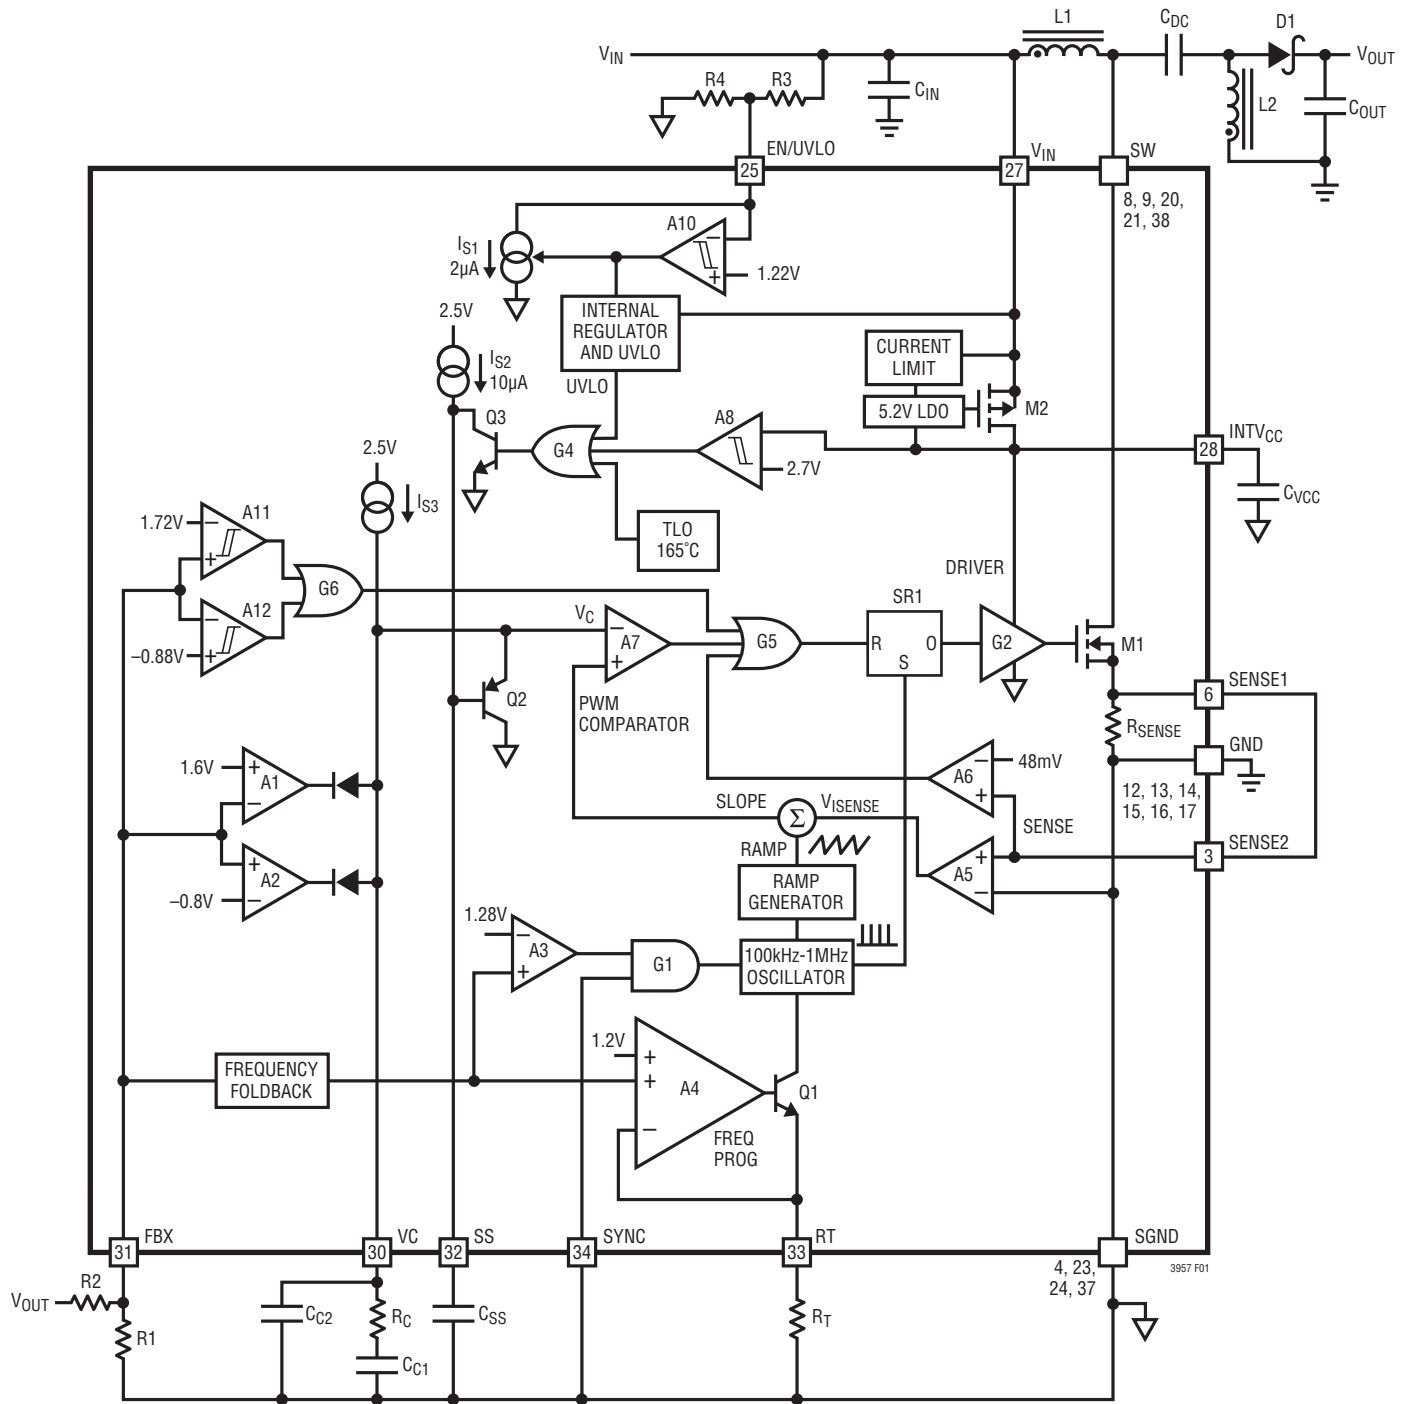

Figure 1. LT3957 Block Diagram Working as a SEPIC Converter
The LT3957 uses a fixed frequency, current mode control scheme to provide excellent line and load regulation. Operation can be best understood by referring to the Block Diagram in Figure 1.
The LT3957 is capable of generating either positive or negative output voltage with a single FBX pin. It can be configured as a boost, flyback or SEPIC converter to generate positive output voltage, or as an inverting converter to generate negative output voltage. When configured as a SEPIC converter, as shown in Figure 1, the FBX pin is pulled up to the internal bias voltage of 1.6V by a voltage divider (R1 and R2) connected from  $V_{OUT}$  to SGND. Comparator A2 becomes inactive and comparator A1 performs the inverting amplification from FBX to VC. When the LT3957 is in an inverting configuration, the FBX pin is pulled down to  $-0.8V$  by a voltage divider connected from  $V_{OUT}$  to SGND. Comparator A1 becomes inactive and comparator A2 performs the noninverting amplification from FBX to VC.
The purpose of this current is to allow the user to program the rising hysteresis. The Block Diagram of the comparator and the external resistors is shown in Figure 1. The typical falling threshold voltage and rising threshold voltage can be calculated by the following equations:
An internal, low dropout (LDO) voltage regulator produces the 5.2V INTVCC supply which powers the gate driver, as shown in Figure 1. The LT3957 contains an undervoltage lockout comparator A8 for the INTVCC supply. The INTVCC undervoltage (UV) threshold is 2.7V (typical), with 0.1V hysteresis, to ensure that the internal MOSFET has sufficient gate drive voltage before turning on. When INTVCC is below the UV threshold, the internal power switch will be turned off and the soft-start operation will be triggered. The logic circuitry within the LT3957 is also powered from the internal INTVCC supply.
If LT3957 operates at a low VIN and high switching frequency, the voltage drop across the drain and the source of the LDO PMOS (M2 in Figure 1) could push INTVCC to be below the UV threshold. To prevent this from happening, the INTVCC pin can be shorted directly to the VIN pin. VIN must not exceed the INTVCC Absolute Maximum Rating (8V). In this condition, the internal LDO will be turned off and the gate driver will be powered directly from VIN. It is recommended that INTVCC pin be shorted to the VIN pin if VIN is lower than 3.5V at 1MHz switching frequency, or VIN is lower than 3.2V at 100kHz switching frequency. With the INTVCC pin shorted to VIN, however, a small current (around 16μA) will load the INTVCC in shutdown mode.
The choice of operating frequency may be determined by on-chip power dissipation (a low switching frequency may be required to ensure IC junction temperature does not exceed 125°C), otherwise it is a trade-off between efficiency and component size. Low frequency operation improves efficiency by reducing gate drive current and MOSFET and diode switching losses. However, lower frequency operation requires a physically larger inductor. Switching frequency also has implications for loop compensation. The LT3957 uses a constant-frequency architecture that can be programmed over a 100kHz to 1000kHz range with a single external resistor from the  $R_T$  pin to SGND, as shown in Figure 1. A table for selecting the value of  $R_T$  for a given operating frequency is shown in Table 1.
The output voltage  $V_{OUT}$  is set by a resistor divider, as shown in Figure 1. The positive and negative  $V_{OUT}$  are set by the following equations:
The LT3957 addresses this mechanism with the SS pin. As shown in Figure 1, the SS pin reduces the power MOSFET current by pulling down the VC pin through Q2. In this way the SS allows the output capacitor to charge gradually toward its final value while limiting the start-up peak currents. The typical start-up waveforms are shown in the Typical Performance Characteristics section. The inductor current  $I_L$  slewing rate is limited by the soft-start function.
Loop compensation determines the stability and transient performance. The LT3957 uses current mode control to regulate the output which simplifies loop compensation. The optimum values depend on the converter topology, the component values and the operating conditions (including the input voltage, load current, etc.). To compensate the feedback loop of the LT3957, a series resistor-capacitor network is usually connected from the VC pin to SGND. Figure 1 shows the typical VC compensation network. For most applications, the capacitor should be in the range of 470pF to 22nF, and the resistor should be in the range of 5k to 50k. A small capacitor is often connected in parallel with the RC compensation network to attenuate the VC voltage ripple induced from the output voltage ripple through the internal error amplifier. The parallel capacitor usually ranges in value from 10pF to 100pF. A practical approach to design the compensation network is to start with one of the circuits in this data sheet that is similar to your application, and tune the compensation network to optimize the performance. Stability should then be checked across all operating conditions, including load current, input voltage and temperature. Application Note 76 is a good reference on loop compensation.